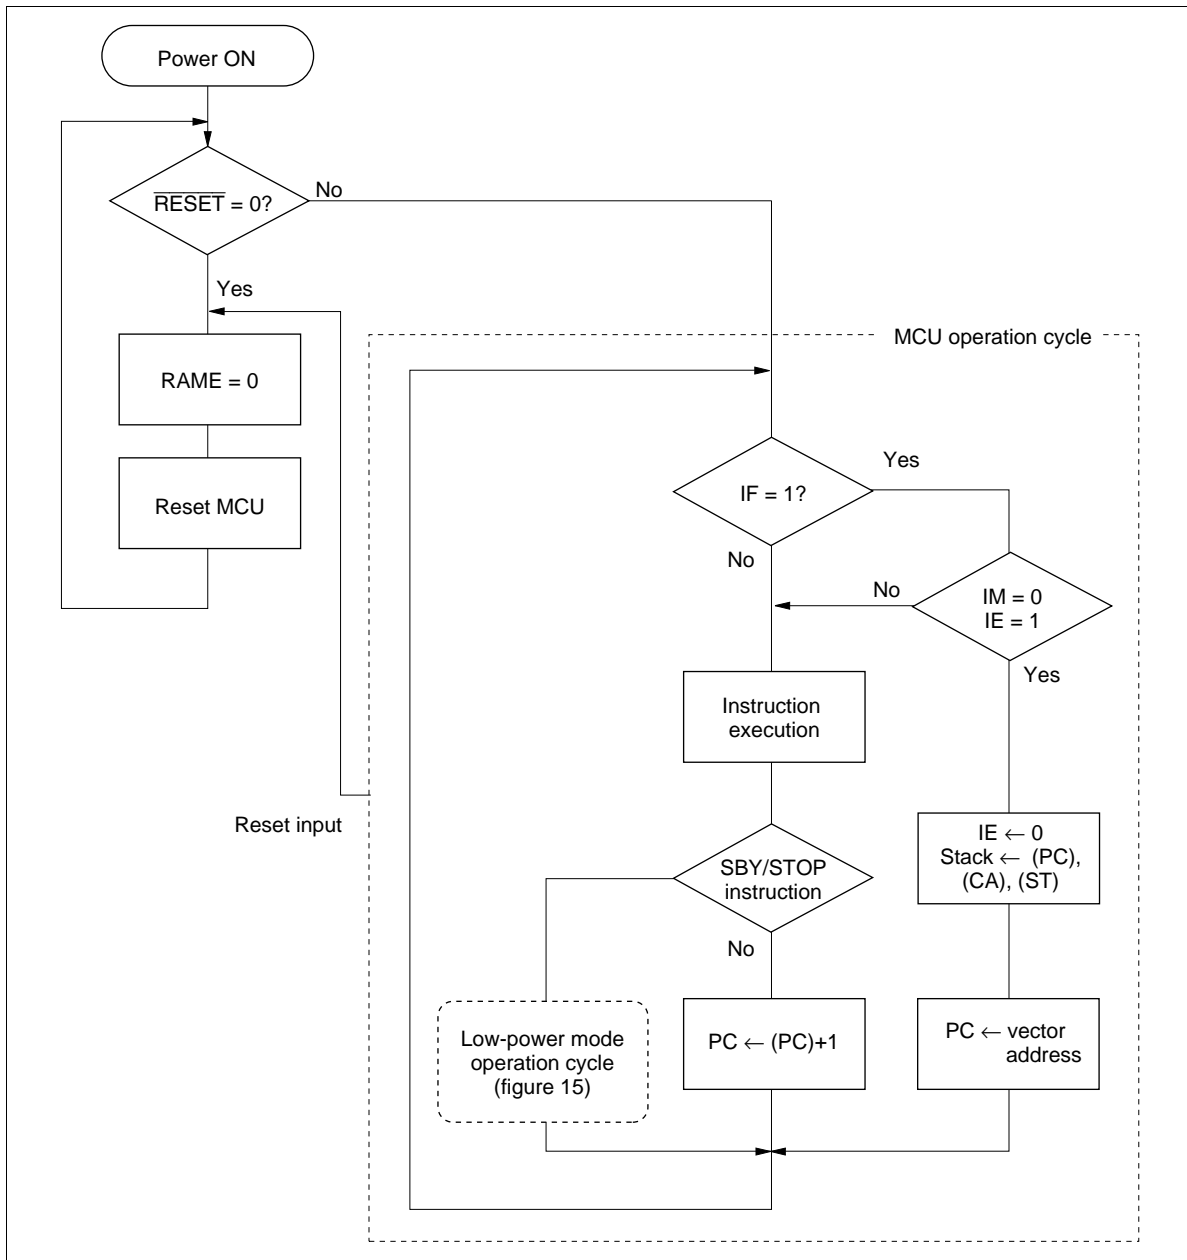
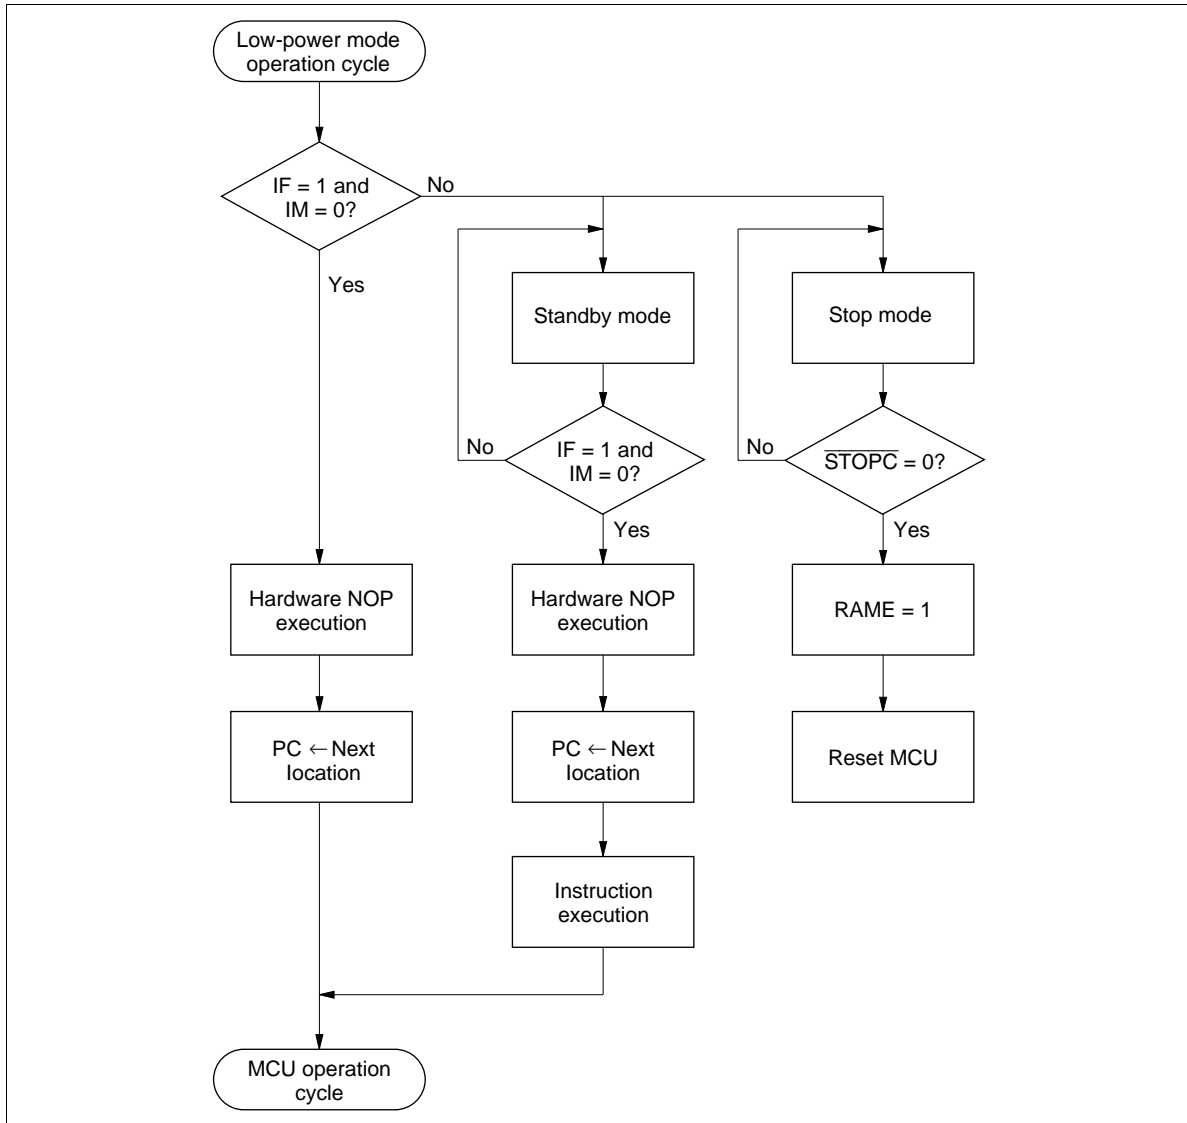

Figure 13 MCU Operating Sequence (Power ON)
Figure 14 MCU Operating Sequence (Low-Power Mode Operation)
**MCU Operation Sequence:** The MCU operates in the sequence shown in figure 13 and figure 14. The low-power mode operation sequence is shown in figure 14. With the IE flag cleared and an interrupt flag set together with its interrupt mask cleared, if a STOP/SBY instruction is executed, the instruction is cancelled (regarded as an NOP) and the following instruction is executed. Before executing a STOP/SBY instruction, make sure all interrupt flags are cleared or all interrupts are masked.